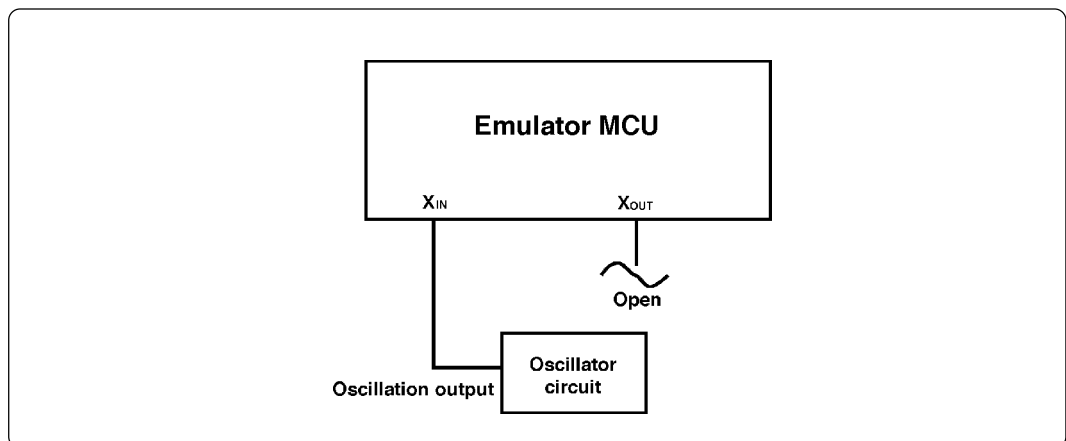

Figure 3.10 External oscillator circuit
- To operate the emulation pod with an external clock, construct the oscillator circuit as shown in Figure 3.10 in the target system and input the oscillator output at 50% duty (within the operating range of the evaluation MCU) into pins X_{IN} and X_{CIN}. And pins X_{OUT} and X_{COU}T should be open.